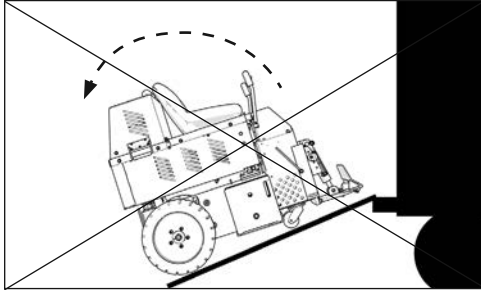

FIG. 1
**CAUTION:** MACHINE IS BACK HEAVY. DO NOT RUN ON STEEP INCLINE THIS COULD CAUSE MACHINE TO TIP OVER! (FIGURE 1). DO NOT USE A RAMP TO MOVE MACHINE.